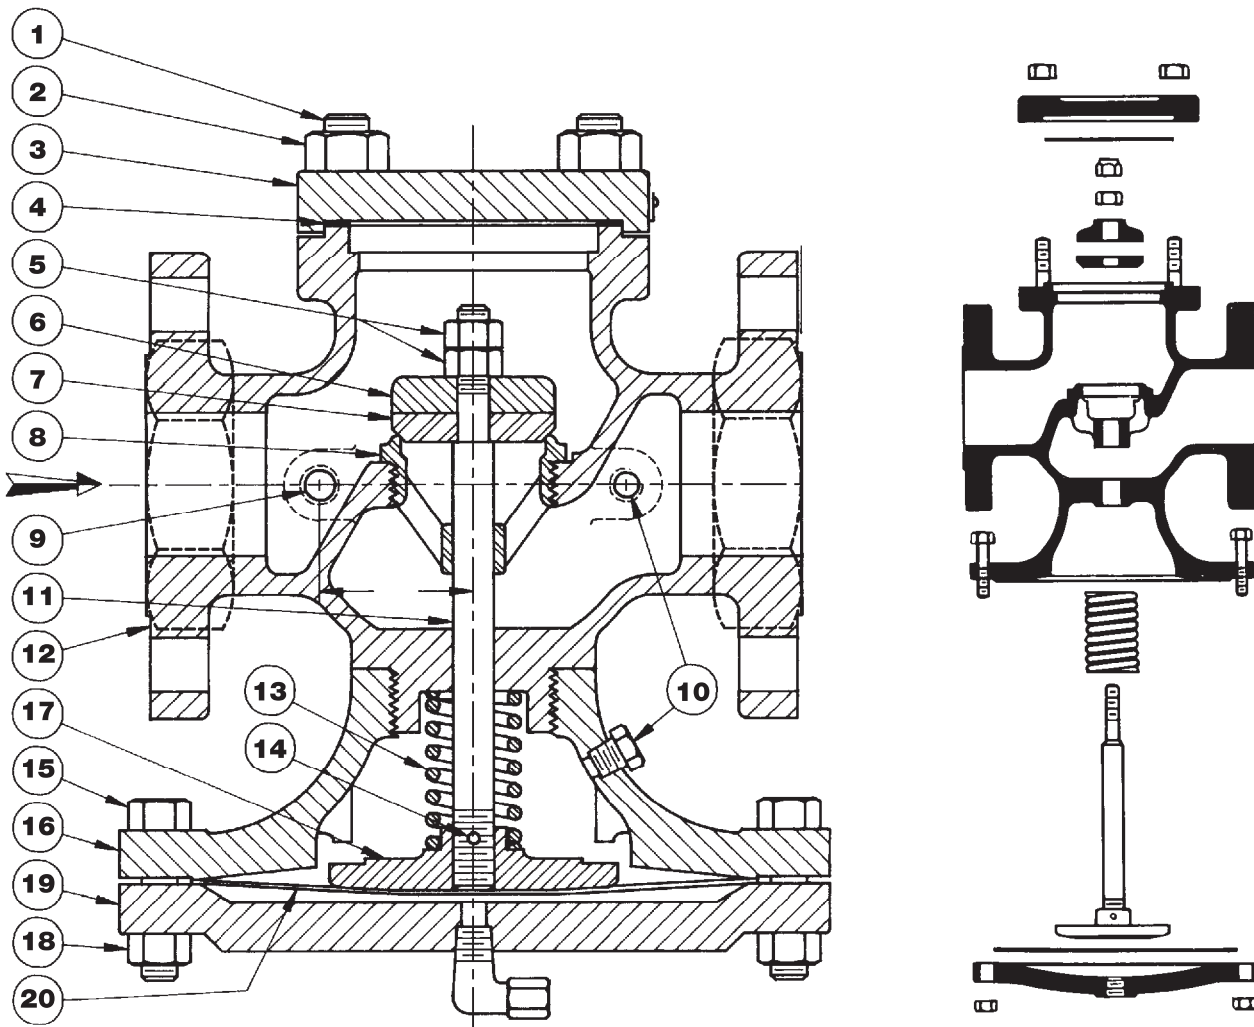

FIGURE 3
Valve setting is gaged at K to establish correct stem length and diaphragm position. Dimension K is supplied with each replacement stem. For metal diaphragm valves, K is cast on the upper face of pressure plate (17) (Fig. 3).